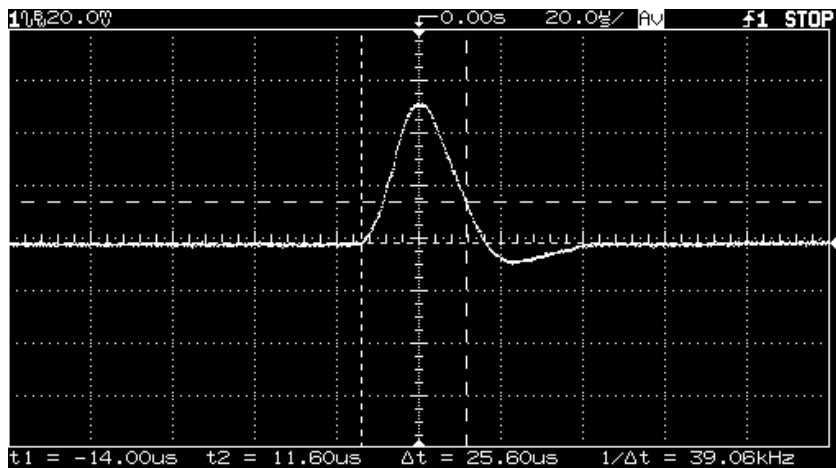

Figure 3-5. Transient Response Time
- 5 Adjust the the oscilloscope to display transients as shown in Figure 3-5. Note that the pulse width (t_2-t_1) of the transients at 15 mV from the base line is no more than 50 μsec for each of the three outputs.
- 6 Repeat steps (1) through (5) for the remaining outputs.